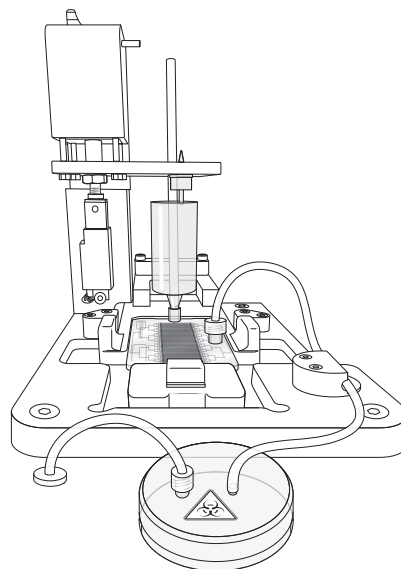

Fig. 25. Instrument loaded with slide, funnel, cartridge piercer, and waste tubing properly routed through the pinch valve.
- Be sure to attach the Genesis System tubing to the waste jar, and press the waste jar tubing into the pinch valve (Figure 25).